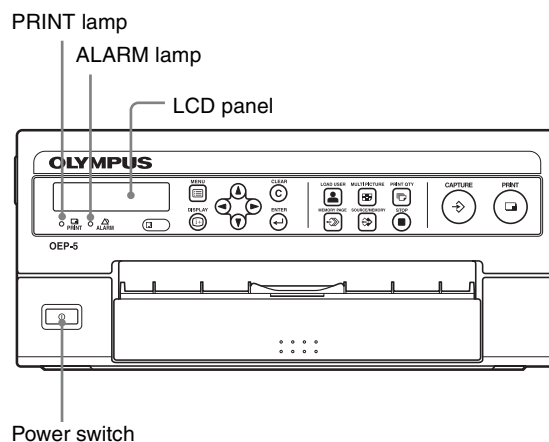

Figure 3.1
- 1 Press the power switch to turn ON the color video printer (OEP-5) (see Figure 3.1).
- 2 Confirm that the “PRINT” lamp and “ALARM” lamp lights and then turns off (see Figure 3.1).